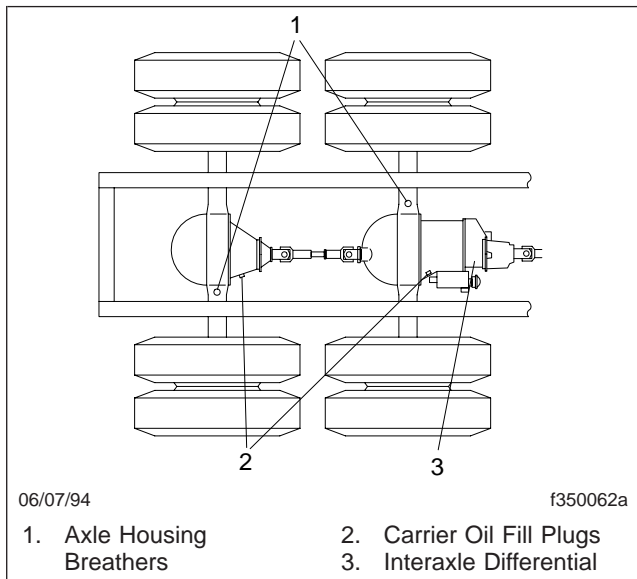

Fig. 4, Fill Plug and Axle Housing Breather Locations
2. Clean the fill plug in the side of the axle carrier, and the area surrounding it. See Fig. 4. Then remove the plug.
Axle housing breathers (Fig. 4) must remain clean. Whenever the axle lubricant level is checked, check the axle breather to be sure it is open. Check more often under adverse operating conditions. If the breather is plugged, clean or replace it as needed.